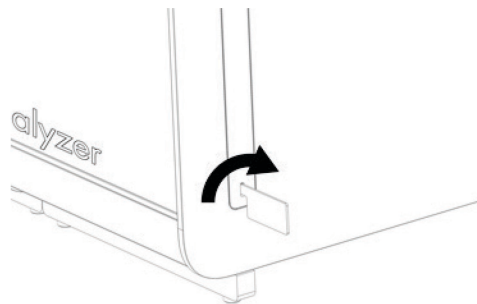

Figure 13. Removing protective covers.
- 1 e. Remove the protective covers from the side of the Analytical Module, which is where the additional Analytical Module will be attached (Figure 13).